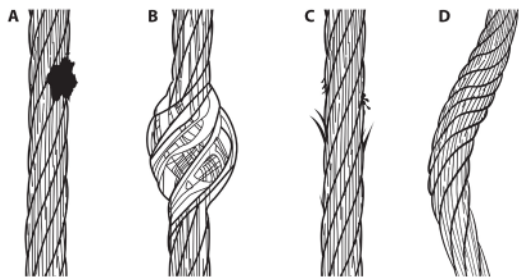

Figure 27: Inspection of Cable
Inspect the entire length of the constituent line up to the Green Maximum Working Length Visual Indicator shown in Figure 26. Review the cable lifeline closely for broken strand wires, welding spatter burns, welding slag, bird-caging, kinks and bent strands. Also examine for rust, dirt, paint, grease or oil. Check for damage caused by chemical corrosion or excessive heat as evident with discoloration. See Figure 27 for examples. If any of these conditions exist, remove the SRD from service.
Extract all of the cable and check the entire working length for damage caused by chemical corrosion or excessive heat as evident by discoloration (A), bird caging (B), broken wire strands (C), kinks and bent strands (D), see Figure 27. The cable should retract completely without faltering and should remain taut under tension without sagging.
Inspect the entire length of the constituent line up to the Green Maximum Working Length Visual Indicator shown in Figure 26. Review the rope lifeline closely for broken strands, welding spatter burns, welding slag, abrasion damage, glazing, changes in or variable rope diameter, discoloration, changes in flexibility, kinking, or hockling. Also examine for rust, dirt, paint, grease or oil. Check for damage caused by chemical corrosion or excessive heat as evident with discoloration. See Figure 27 for examples. If any of these conditions exist, remove the SRD from service. • Abrasion: Rupture or fraying of fibers due to wear and/or due to motion against other fibers, rope components, or a contact surface. • Glazing: A fusing or melting of the fibers that gives a hard glassy surface due to overheating or excessive friction over a surface or the rope itself. • Diameter Integrity: An increase or decrease in rope diameter due to excessive abrasion, glazing, foreign objects in the core, or reduction in core size due to broken fibers. • Discoloration: Fading, streaking, or staining due to chemical, UV, environment, or other outside agents that may cause a reduction of strength of the rope. • Flexibility: A loss in the ability to bend for the type and construction of the rope, hard or soft spots. • Core Fiber Exposure: The core from the center of the rope may work itself through the cover and may cause a loss of strength and the ability of the rope to function over a sheave. • Kinking or Hockling: A short twist, curl, or bend in one or more of the yard or rope strands, will cause a reduction in rope strength. It may be possible to work the kink out, but if the strand is still distorted the strength reduction will occur.